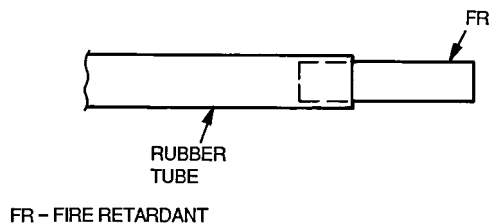

Fig. 5 — Tubing Connections
5. Push one end of a piece of 3/16-in. ID rubber tubing over the 1/4-in. OD FR tubing (Fig. 5), and the other end of the rubber tubing onto the pressure switch “LO” port.